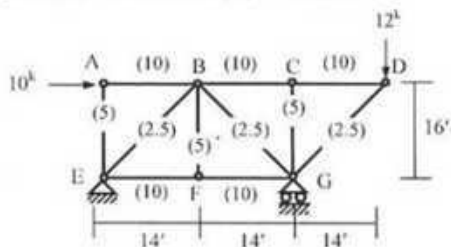

Fig. 3
3. Use Virtual Work Method for Fig. 3 to determine the relative deflection of joints A and G along line AG due to (i) Applied load, (ii) Rise in temperature of  $50^\circ\text{F}$  in top members and fall in temperature  $25^\circ\text{F}$  in bottom chord members. Parenthesis values indicate area of members in square inches [Given,  $E = 30 \times 10^3$  ksi,  $\alpha_t = 1/150000/^\circ\text{F}$ ].